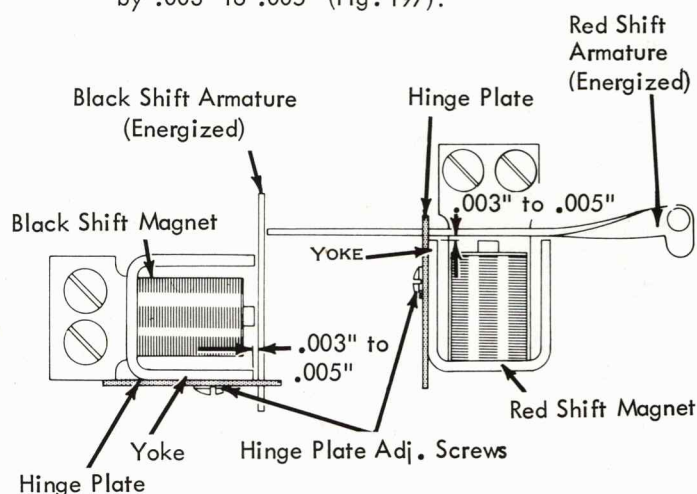

FIGURE 197. Hinge Plates
- a. With the armatures energized, position the hinge plates so that the armatures clear the magnet yokes by .003" to .005" (Fig. 197).